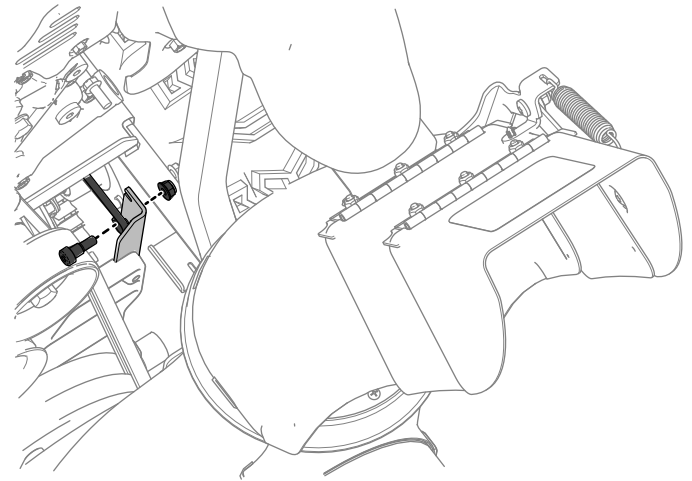

Figure 10
3. Connect the other end of the rod to the new traction plate using a bolt and nut included with this kit (Figure 10).